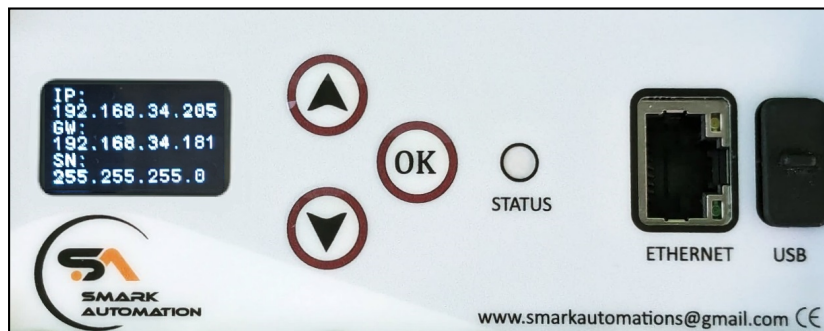

Figure 22: Network Configuration Display
To view the IP address and other network details, navigate to the "Show IP" option from the navigation menu. Pressing OK will display the IP address (IP), Gateway (GW), and Subnet (SN) as shown in Fig 22. The IP address displayed here is used to access the local web server. To access the web server, refer to Section 4.1 of the document.